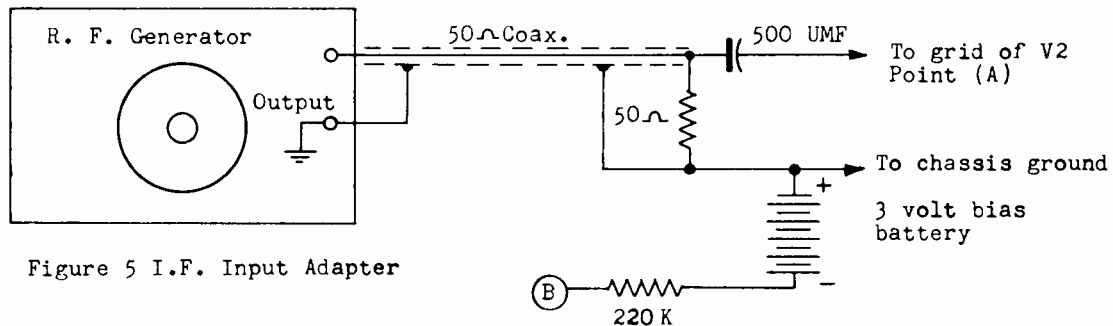
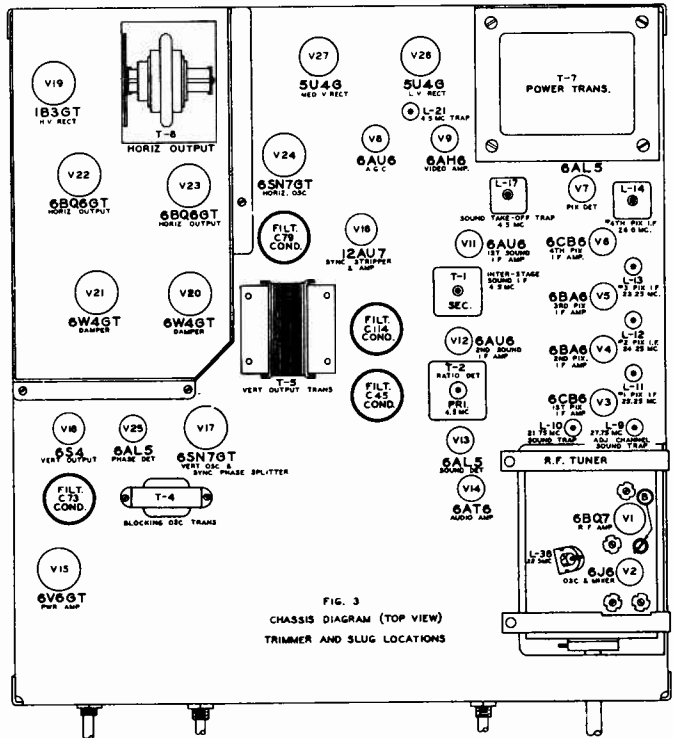

Figure 5 I.F. Input Adapter
FIG. 3
SOUND TRAP ALIGNMENT: **FIRST,** Connect the R.F. Signal generator to the grid of V-2 by means of the I.F. Input adapter as shown in Figure 5.
27.75 Mc. L9 (Top of Chassis Fig. 3)
21.75 Mc. L10 (Top of Chassis as shown in Figure 3).
22.5 Mc. L6 (Top of tuner as shown in Fig. 3)
25.25 Mc. L11 (Top of chassis as shown in Fig. 3)
24.25 Mc. L12 (Top of chassis as shown in Fig. 3)
23.25 Mc. L13 (Top of chassis as shown in Fig. 3)
26.0 Mc. L14 (Top of chassis as shown in Fig. 3)
L17 Top of chassis as shown in Fig. 3.
T1 Top of chassis as shown in Fig. 3 and
T2 (Pri. Ratio Det) Top of chassis as shown in Fig. 3.
the tubes on top of R.F. Tuner (See Fig. 3, suggested input adapter Fig 5) (F)
THIRD: Peak L21 (Top of chassis as shown in Fig. 3) for minimum output on the voltmeter.